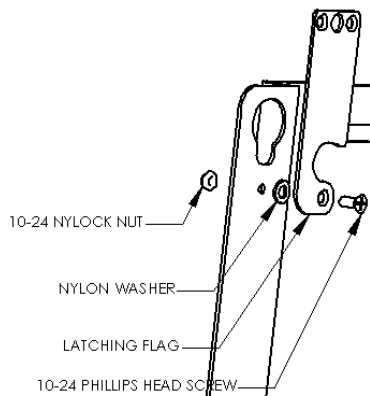

Figure 2
1. Attach latching flags to mount using the 10-24 Phillips head screws, Nylon washers, and Nylock nuts (see Figure 2). Tighten until friction will hold the flags in place.